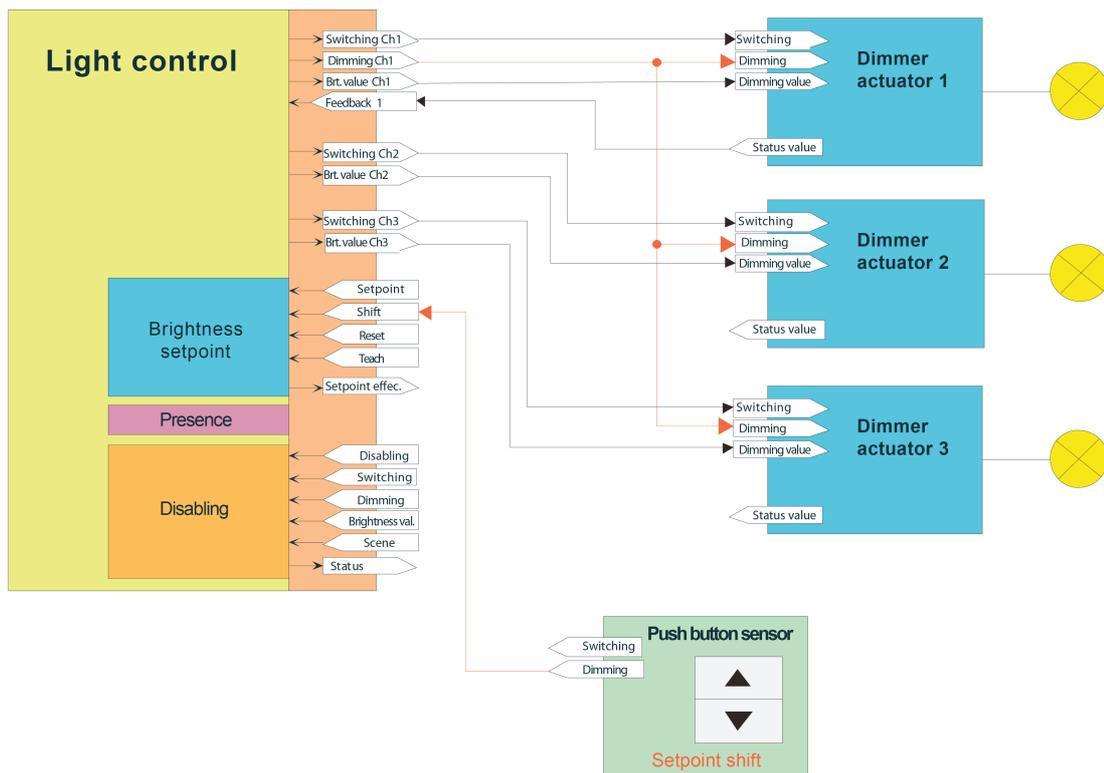

Figure 16: Application example for the setpoint shift with 3 lighting channels
- i** If the lighting channels 2 or 3 are also in use (figure 16) during the light control, the 4-bit dimming objects of the dimmer actuators activated via these channels must be connected to the object "Output channel 1 dimming" of the light control (same group address as dimmer actuator in channel 1).